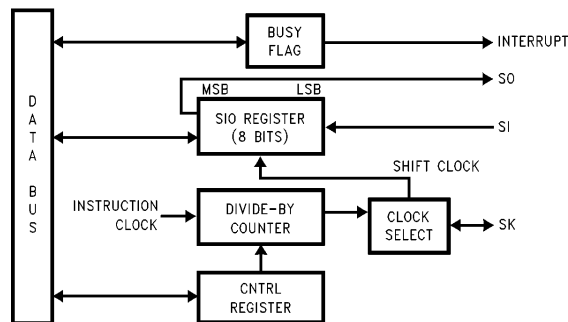

FIGURE 19. MICROWIRE/PLUS Block Diagram
MICROWIRE/PLUS is a serial synchronous communications interface. The MICROWIRE/PLUS capability enables the device to interface with any of National Semiconductor's MICROWIRE peripherals (i.e., A/D converters, display drivers, E2PROMs etc.) and with other microcontrollers which support the MICROWIRE interface. It consists of an 8-bit serial shift register (SIO) with serial data input (SI), serial data output (SO) and serial shift clock (SK). *Figure 19* shows a block diagram of the MICROWIRE/PLUS logic.